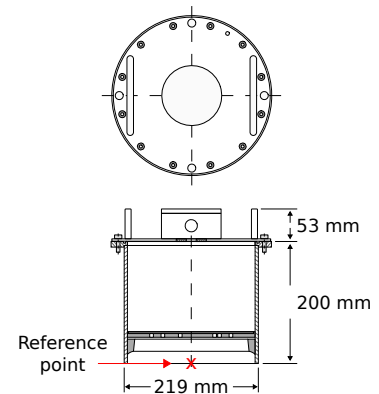

Figure 1.2: The reference point for mounting height measurement and radar position.
- The reference level for the mounting height of the radars is shown in Fig. 1.2.